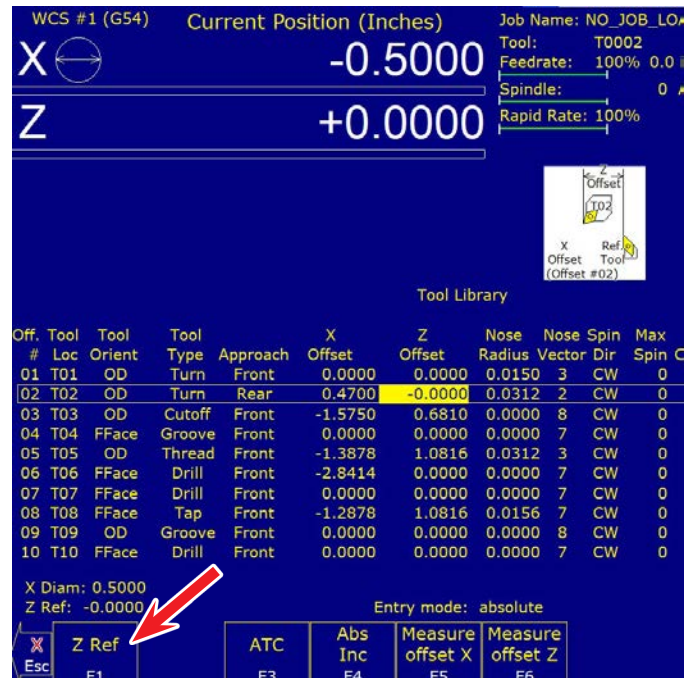

FIGURE 19
5. After you click on Measure Here the screen will go back to the main choices. At this time, we want to set the Z Reference with our Reference Tool (Tool #2). The cursor will still be on tool #2, Z Offset. Click on Z Ref F1 (see Figure 19).